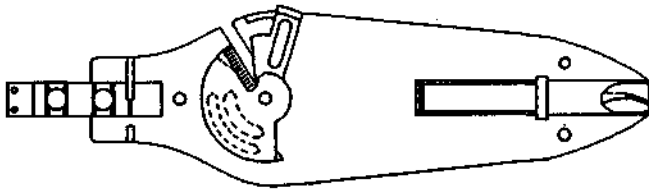

Fig. 18—950A Jumper Wire Cutoff, Insertion, and Removal Tool
2.20 950A: The 950A jumper wire cutoff, insertion, and removal tool (Fig. 18) is used on the COSMIC I and II main distributing frames. One insertion end (identified by the red dot) is used for inserting DT24P jumper into the 4-beam clips of the 78C blocks. The other end (identified by the blue dot) inserts DT24P wire into the 3-beam clips of the 112C blocks.